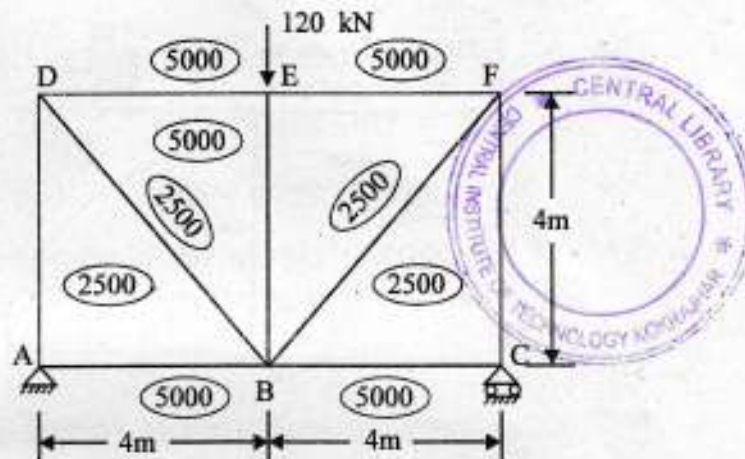

Fig. 8
5. Find the vertical deflection of the joint B in the truss loaded as shown in figure 8. The cross-sectional area of the members in mm are shown in brackets. Consider $E = 200 \text{ kN/mm}^2$. 20